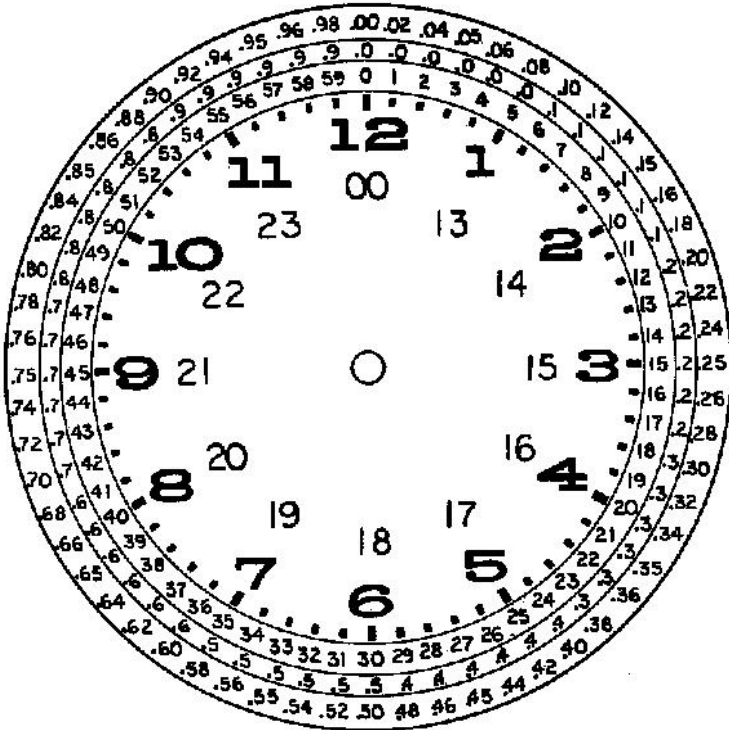

Figure 3
If your model prints Hundredths or 00-23 hours, refer to the **Dial of Decimal Equivalents in Figure 3** (page 5) to determine the correct setting.
The dial in Figure 3 shows the tenths and hundredths setting for each minute. The inner circle represents regular minutes, the middle circle represents tenths, and the outer circle represents hundredths of a minutes.
3. To synchronize the display with the type wheels, listen for the type wheels to click. At the click, press the minute button to advance to the next minute. Seconds are now synchronized. Always set the display to regular minutes. Refer to Figure 3, "dial of decimal equivalent" if using hundredths or tenths.